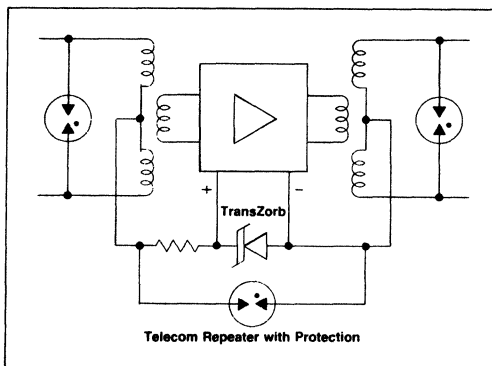

FIGURE 5—Telecom Repeater With Protection
b. **Case Study:** In the following application, a silicon transient suppressor is being used to both regulate the voltage to power a telecommunications repeater and also provide transient suppression. The schematic is shown in Figure 5. This is one of two repeaters powered and protected by the same component.